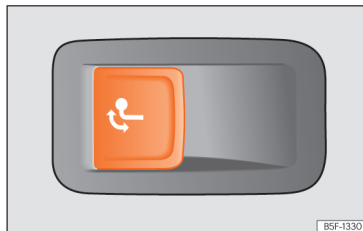

Fig. 198 Left side of the luggage compartment: button to unlock the tow hitch.
- Pull the >>> Fig. 198 button briefly. The tow hook unlocks electrically and automatically turns outwards. The button's control lamp flashes.
- Pull the >>> Fig. 198 button briefly. The tow hook unlocks electrically.
- Never press the button >>> Fig. 198 when there is a trailer hooked to the vehicle or when a carrier system or other accessories are mounted on the tow hook.